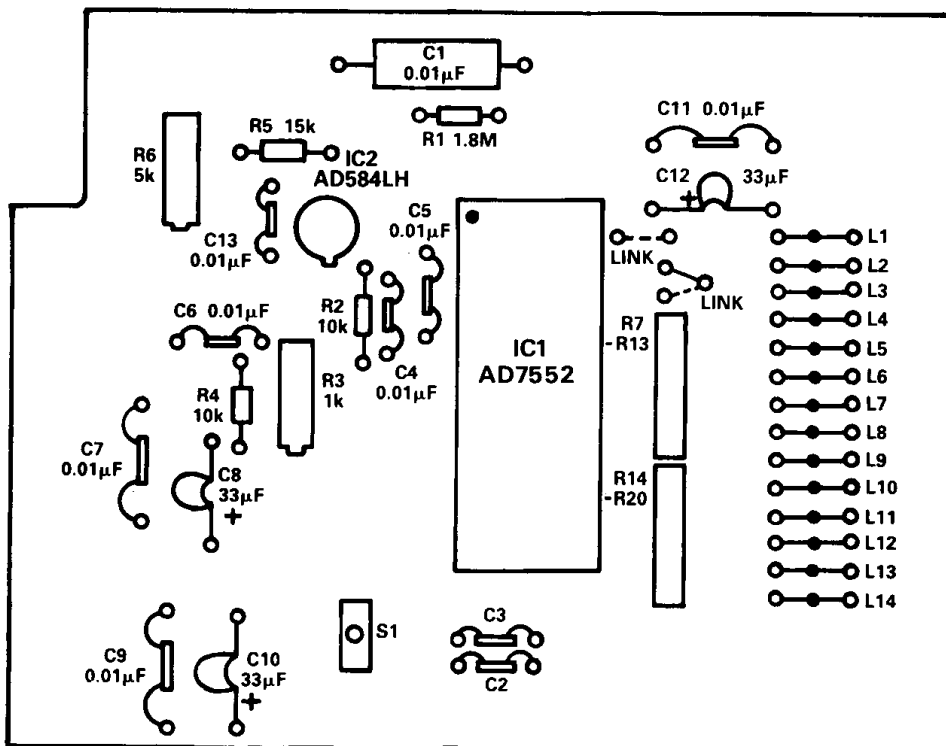
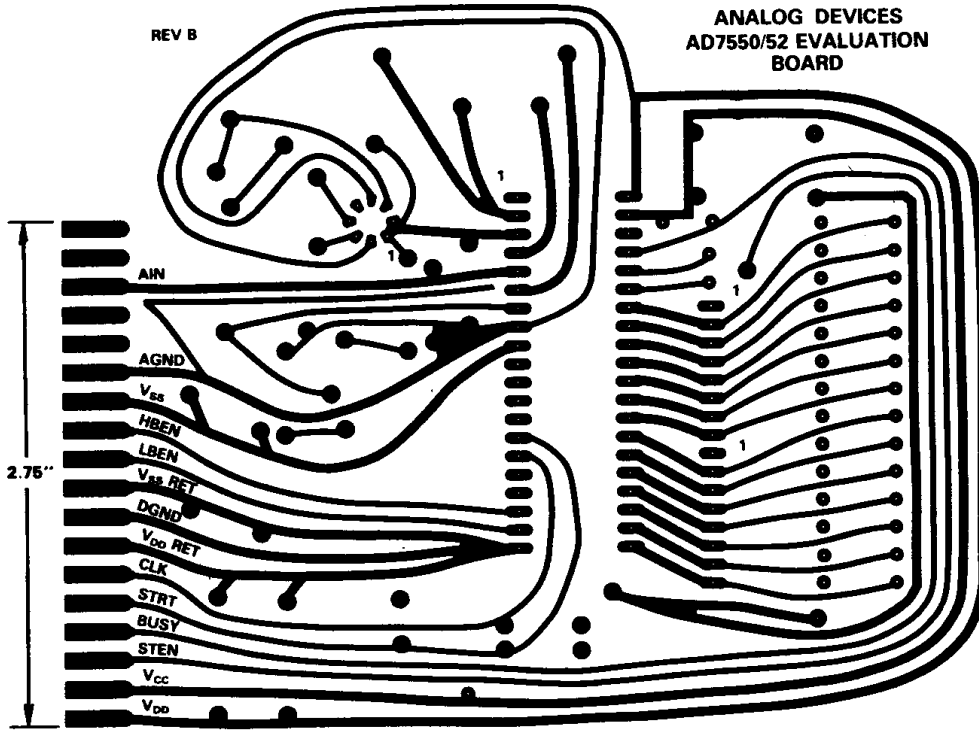

Figure 7. Component Overlay for Figure 8a
Figure 8a. Component Side
9. A printed circuit layout for an evaluation board is shown in Figure 8a and 8b. Figure 6 shows the circuit diagram for this evaluation board with component values for  $f_{CLK} = 250\text{kHz}$ ,  $V_{REF1} = +4.25\text{V}$  operation. Figure 7 shows the component overlay for Figure 8a. Note that either  $\overline{\text{BUSY}}$  (pin 35) or  $\overline{\text{BUSY}}$  (pin 36) is available at the edge connector via a wire link. Note also that  $\overline{\text{STEN}}$  (pin 37) may be tied high via a wire link.